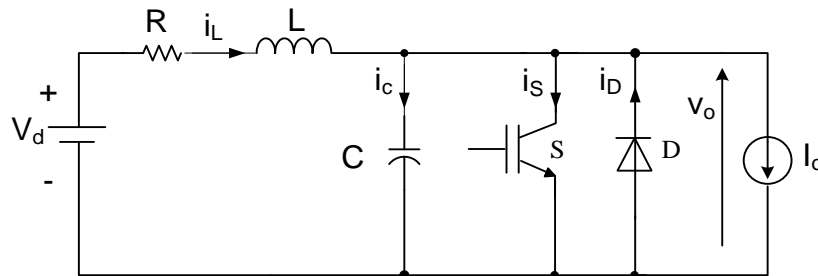

Figure 6.2 Equivalent circuit of resonant dc link inverter
- b. A resonant dc link inverter supplied from a 200V dc source is represented by an equivalent circuit shown in figure 6.2. The inductance L and capacitance C of the resonant circuit are 0.24mH and 1μF, respectively. The current drawn by the load is constant at 200A and input current of the inductance L at the beginning of the resonant cycle is 209A. The circuit resistance has negligible effect on the voltage and current waveforms during one resonant cycle.
- b.i With reference to figure 6.2 and suitable voltage and current waveforms explain basic operational principals of the resonant dc link inverter.
- b.ii** Explain why switch S and diode D in the circuit shown in figure 6.2 can be removed in the practical resonant dc link inverter.